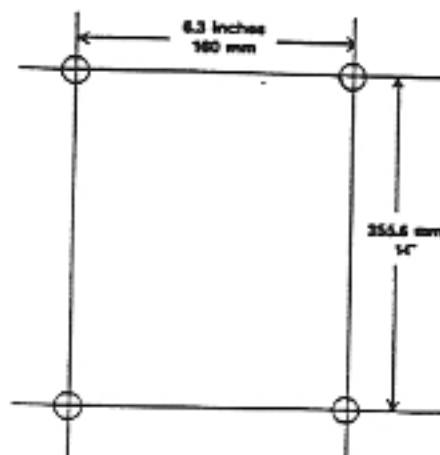

Figure 6-2 Mounting Hole Spacing
1. The OPX unit is designed for wall mounting and may not be floor mounted. Figure 6-2 shows the mounting hole spacing dimensions for wall mounting the Key Service Unit. Use appropriate fasteners that can safely sustain the weight of the OPX unit.